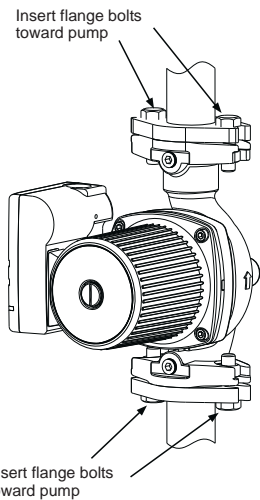

Fig. 4 Connect pump to piping, installing flange bolts toward the pump
1. Pump and mating piping flange bolts need to be installed towards the pump as illustrated in fig. 4.